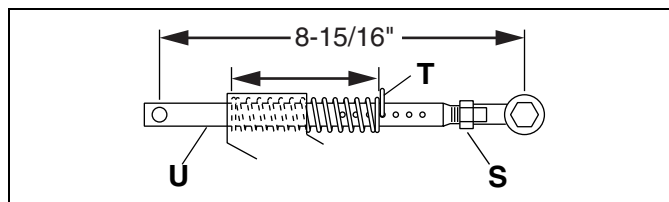

Figure 3P
3. Raise reels and install down pressure spring pins (**T**, **Figure 3P**). If cutting height has not changed, set pins in same position they were in when reels were removed.
1. Lower reels to the ground and remove down pressure spring pins (**T**, **Figure 3P**). Make note of where springs are set.